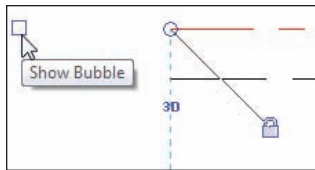

FIGURE 3.17 You can click the box that appears to turn the level information on at the other end of the building.
To follow along, pan over to the left side of the building where the level lines seem to just stop, as shown in Figure 3.17, and perform these steps:
2. Notice the small blue box to the left of the level? Pick it. It will turn the level information on at that end of the building (see Figure 3.17).